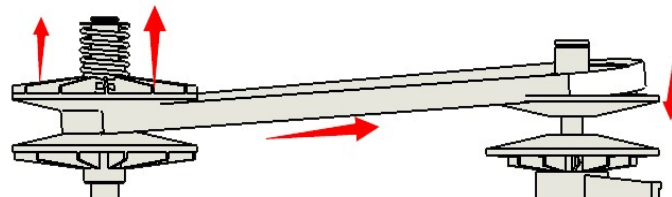

Figure 27
Step 3. Turn the other end of the small wheel, take out the belt from middle of the wheel .Remove the belt (Fig 27)